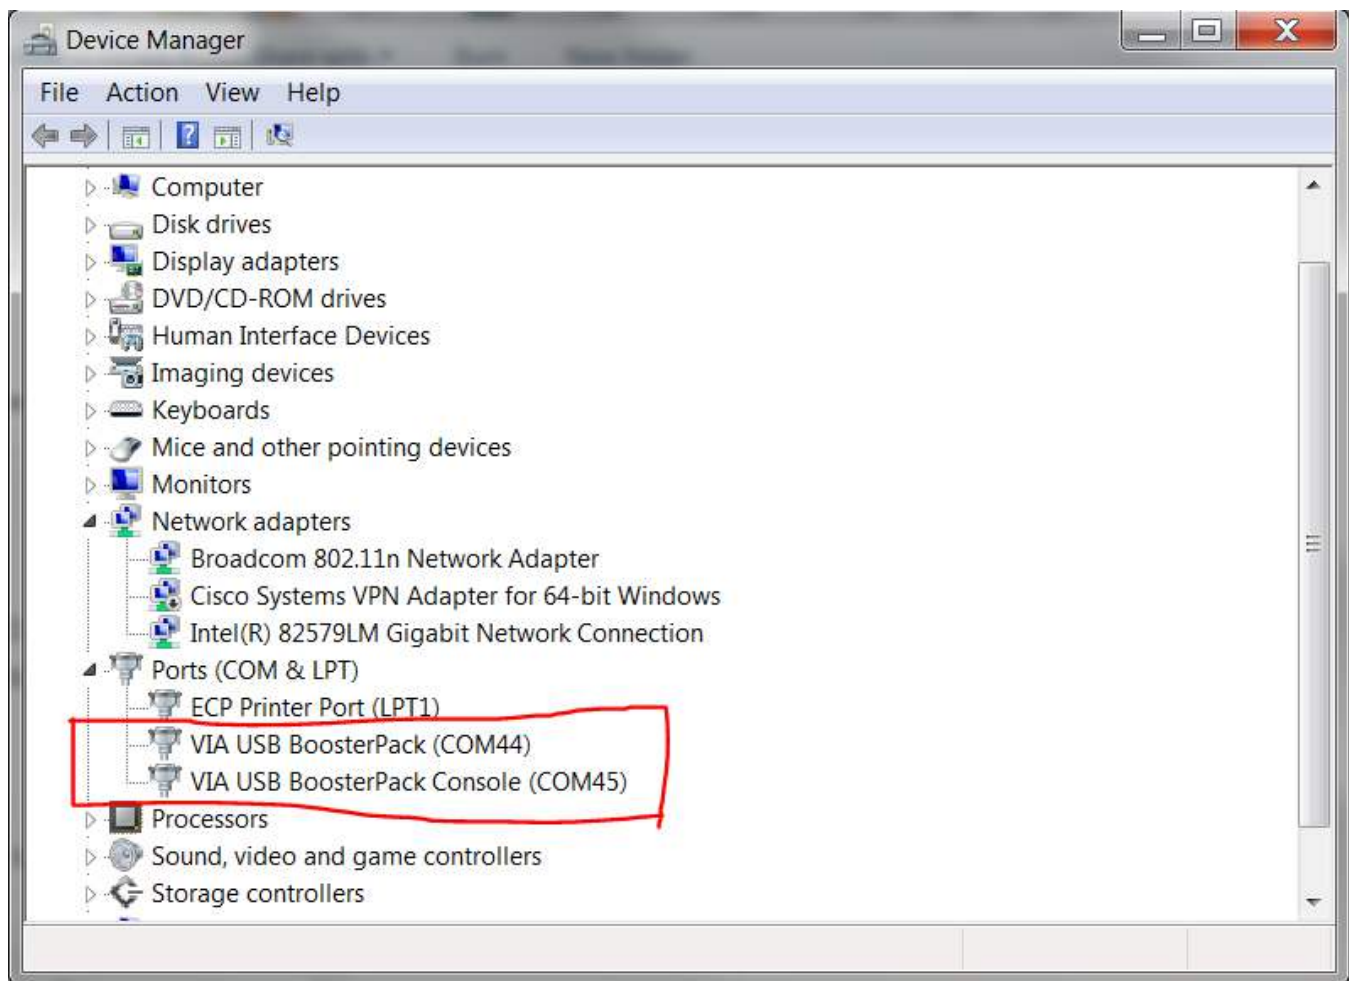

Figure 9. TMC1294 LaunchPad™ VIA BoosterPack Driver
4. Open computer's "Device Manager". You must see under ports "VIA USB BoosterPack" and "VIA USB BoosterPack Console" as shown in Figure 9